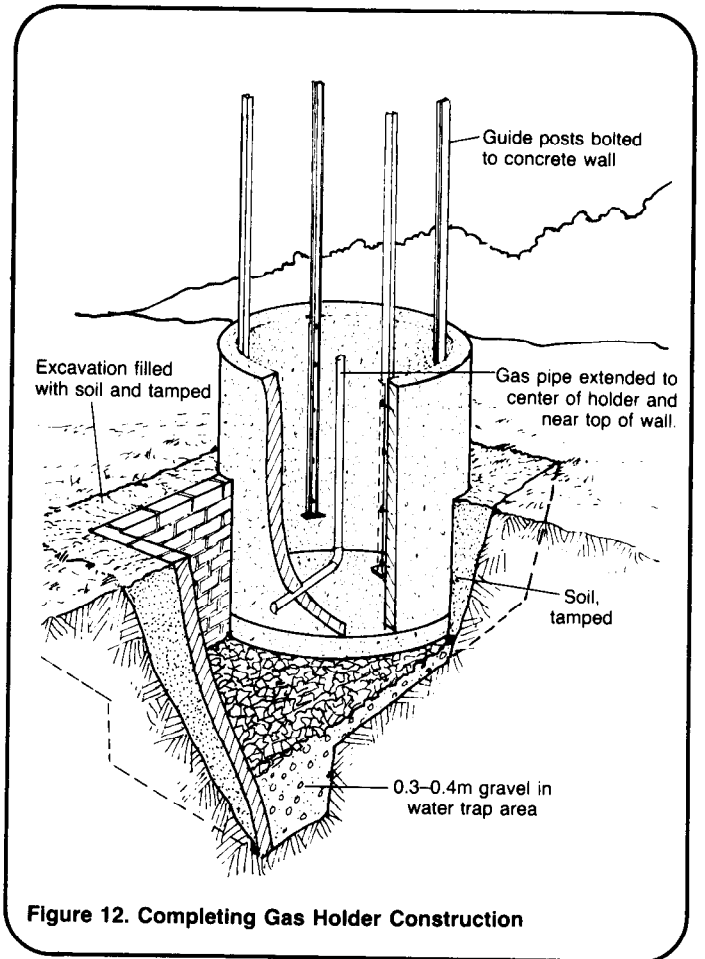

Figure 12. Completing Gas Holder Construction
1. Drill holes and set bolts in the concrete wall for the guide posts. Depending on the design, there will be three or four posts. Attach the posts. They should have stops on the lower end. See Figure 12.
2. Extend the gas pipe to the center of the floor and then vertically upward until it is nearly level with the top of the gas holder walls. See Figure 12. All pipe installations must be performed by an experienced pipe fitter.